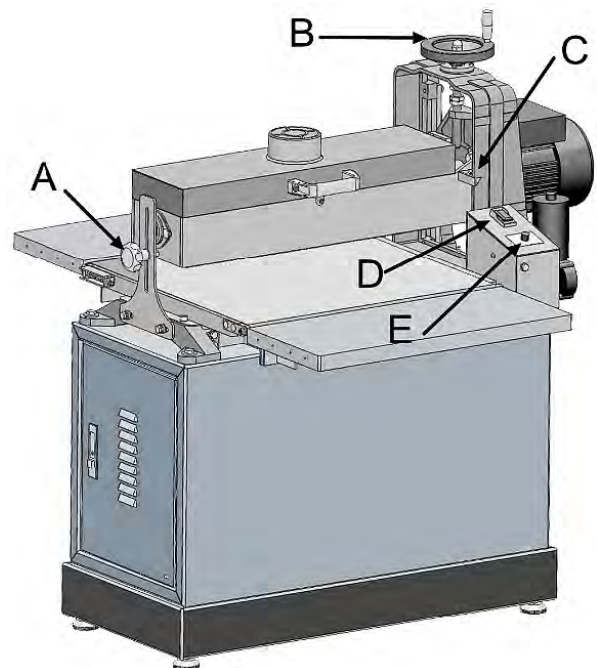

Fig. 15: Workflow
Step 4: Adjust the chip removal with the handwheel (B, Fig. 15).
Step 5: Start the machine (D, Fig.15).
Step 6: Start feed (E, Fig.15) and select feed speed.